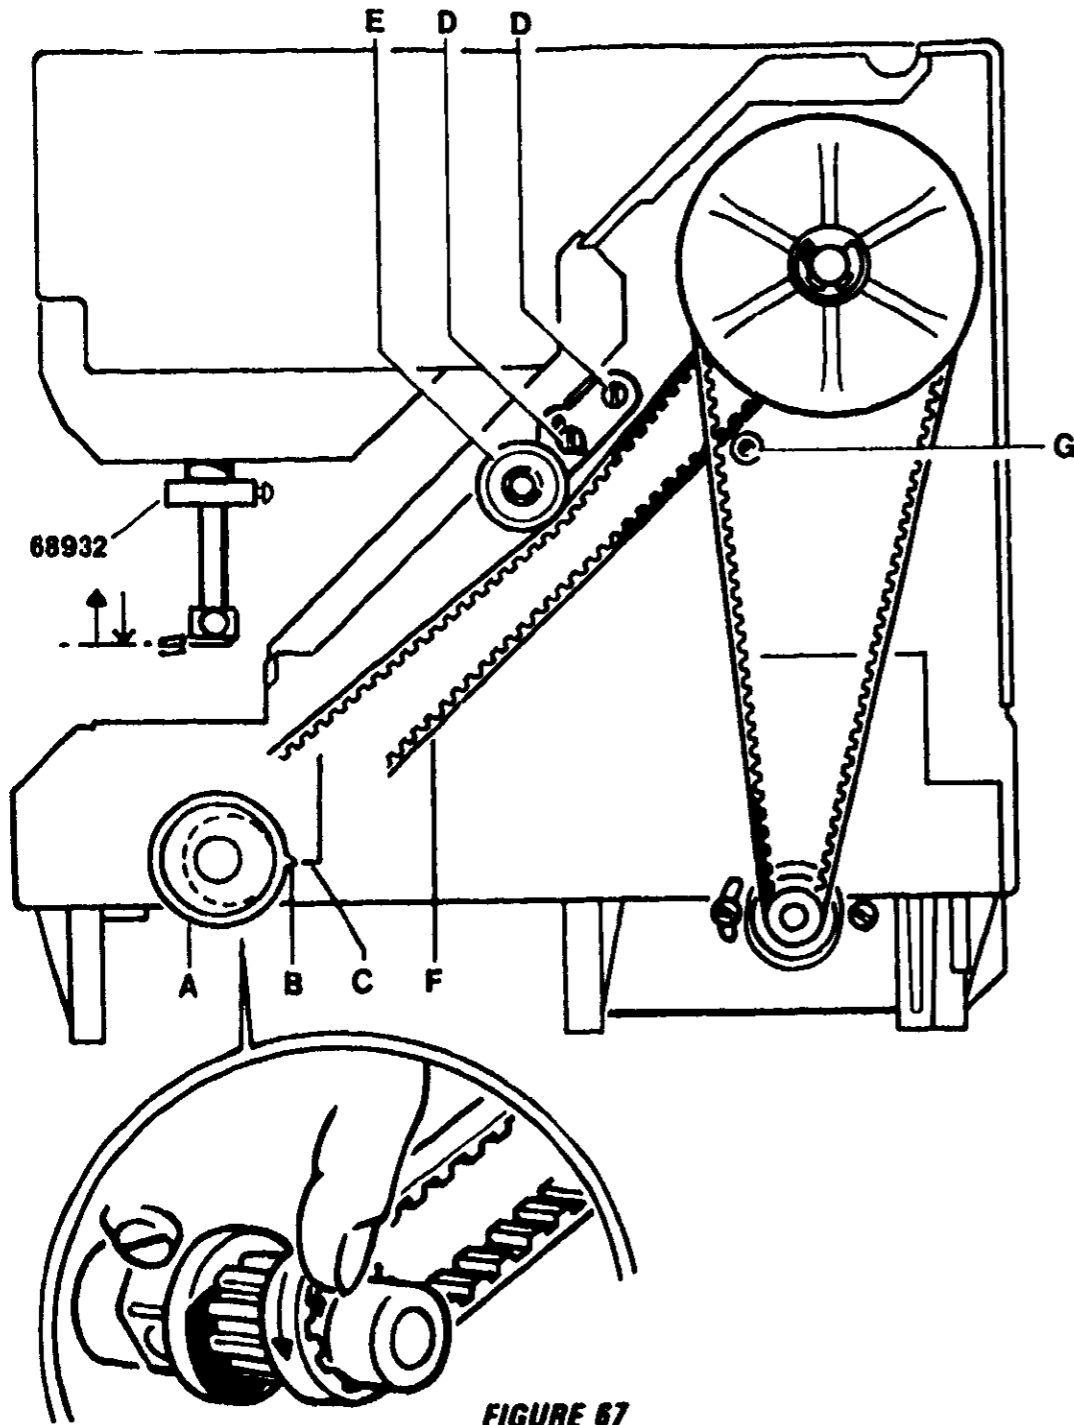

FIGURE 67
Rotate handwheel manually to bring needle bar to its lowest position. Attach gauge No. 68932 to needle bar tight against needle bar support. Manually rotate toothed wheel (A) until its tip (B) is facing that part of mainframe indicated by (C) in Figure 67. Hold toothed wheel stationary while placing belt (F) around it. Make sure that belt (F) is placed above stud (G) and then put tension on belt through tension pulley (E) and tighten screws (D).
Check once more to see that tip (B) is still facing (C) (Figure 67). If it is not, repeat operation. Loosen screws (D), release belt tension, remove belt (F) from wheel (A), and carefully follow instructions in the two preceding paragraphs. When completed, remove gauge from needle bar.
Loosen screws (D) (Figure 67) slightly. Lift tension pulley (E) and remove belt (F) from toothed wheel (A). Reset needle timing to feed as explained below.
Rotate handwheel manually to bring needle bar to its lowest position. Attach gauge No. 68932 to needle bar tight against needle bar support. Manually rotate toothed wheel (A) until its tip (B) is facing that part of mainframe indicated by (C) in Figure 67. Hold toothed wheel stationary while placing belt (F) around it. Make sure that belt (F) is placed above stud (G) and then adjust tension on belt through tension pulley (E) and tighten screws (D).